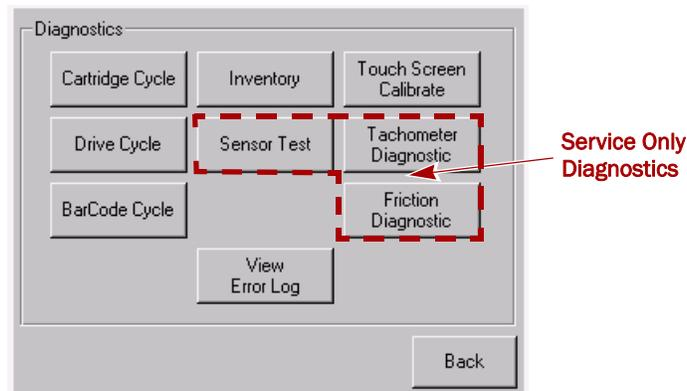

Figure 5-24: Diagnostics Menu Screen
To access the diagnostics functions from the GUI, press **Menu > Diagnostics**. The Diagnostics Menu screen is displayed (Figure 5-24 on page 5-18).
2. From the Diagnostics menu (as shown in Figure 5-24 on page 5-18), press **Cartridge Cycle**.
2. From the Diagnostics menu (as shown in Figure 5-24 on page 5-18), press **Drive Cycle**.
2. From the Diagnostics menu (as shown in Figure 5-24 on page 5-18), press **Bar Code Cycle**.
2. From the Diagnostics menu (as shown in Figure 5-24 on page 5-18), press **Inventory**.
2. From the Diagnostics menu (Figure 5-24 on page 5-18), press **View Error Log**. The most recent error log entries are displayed (Figure 5-29).
2. From the Diagnostics menu (as shown in Figure 5-24 on page 5-18), press **Touch Screen Calibrate**.